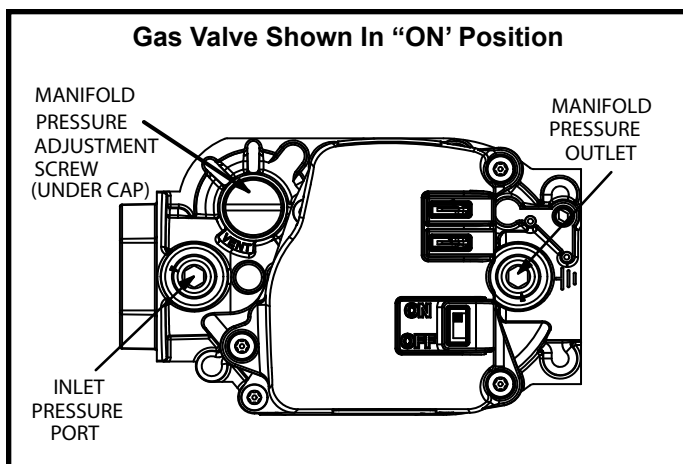

Figure 61
### Gas Valve Operation (Figure 61)
6. Move gas valve switch to **OFF**. See Figure 61.
8. Move gas valve switch to **ON**. See Figure 61.